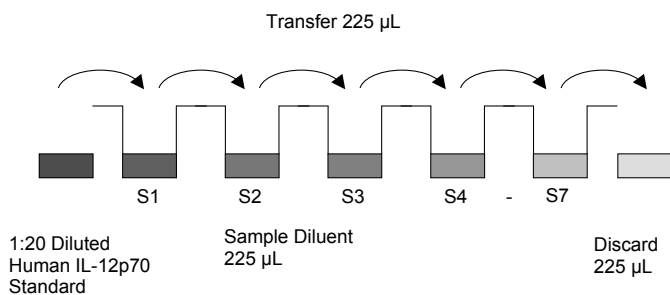

Fig. 8 Dilute standards - tubes
5. Repeat serial dilutions 5 more times thus creating the points of the standard curve (see Figure 8).